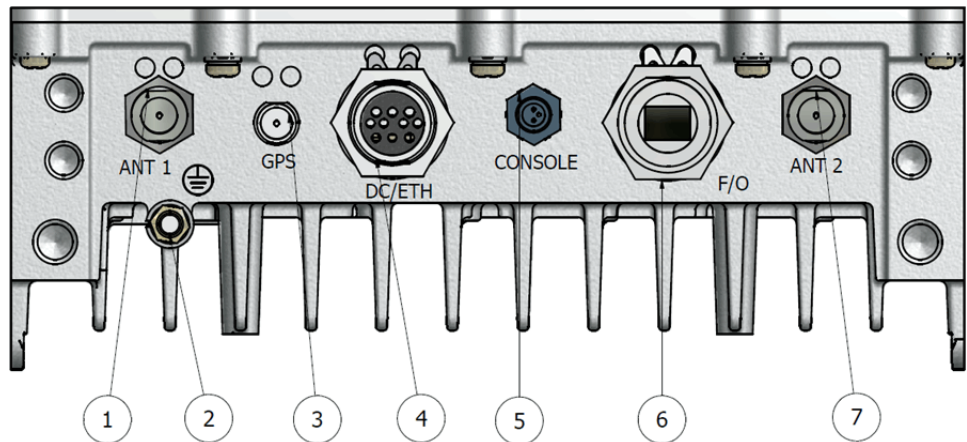

Figure 11: Fiber Optic Ethernet Port Option
2. Connect the other end of the cable to the DC/ETH port on the WIN7000 shown as port 4 in Figure 11.
3. Connect the optical cable to the F/O connector on the WIN7000 (for more information, see Figure 11).